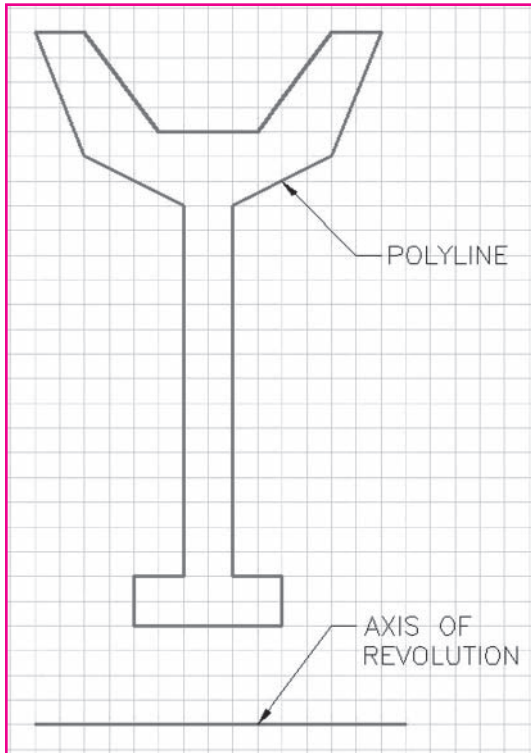

Fig. 46-1
5. Create the polyline shown in Fig. 46-1 using the following information.